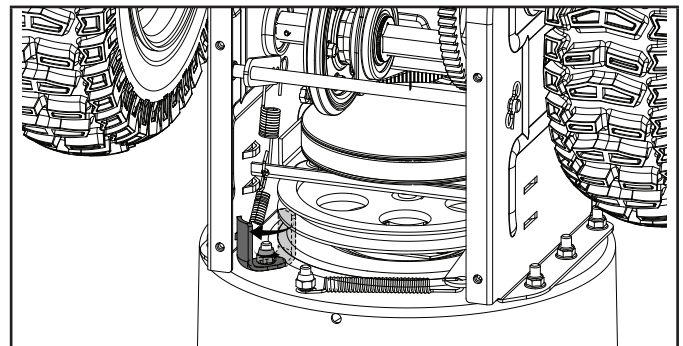

Figure 27A
7. Slip the new auger drive belt into the compartment from the bottom of the snowblower placing it around the bottom of the auger drive pulley and slipping it around the front pulley on the engine. Ensure the belt is positioned between the bottom belt guard and the bottom of the auger drive pulley. You may need to remove the bolt holding the lower belt guard in place to properly seat the belt into the pulley. Replace the belt guard and bolt after installing the belt into the pulley (Fig. 27A/B).